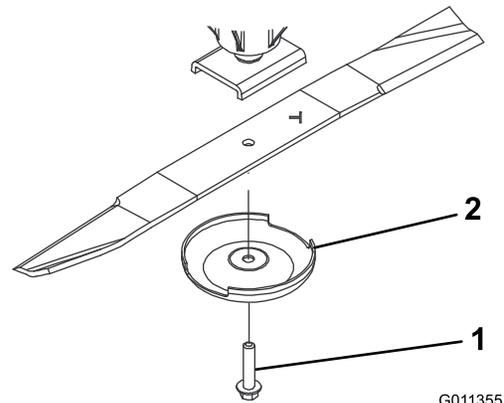

Figure 85
2. Grasp the end of the blade using a rag or thickly padded glove. Remove the blade bolt, anti-scalp cup, and blade from the spindle shaft (Figure 85).
3. Install the blade, sail facing toward the cutting deck, with the anti-scalp cup and blade bolt (Figure 85).